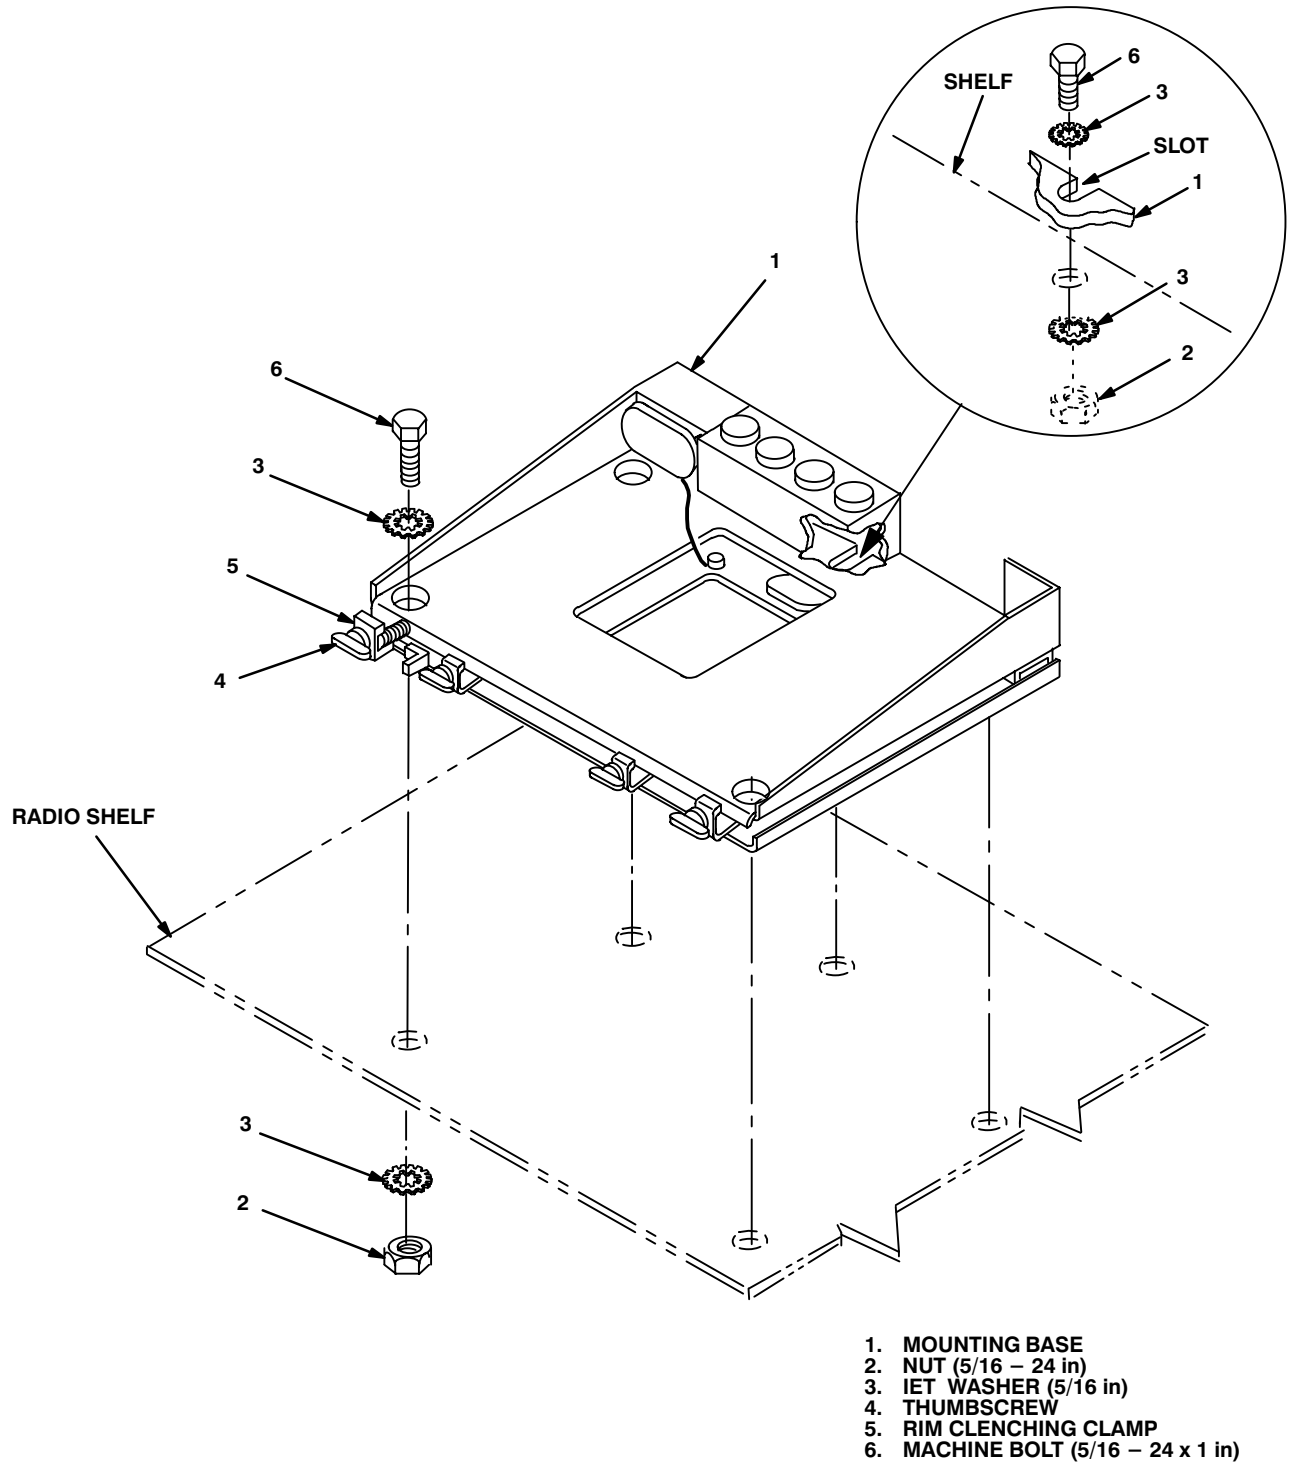

Figure 5-4. Mounting Base Installation
b. Mounting base (1).	Remove a 2" square area of paint on the underside of the mounting base (1) around left front and rear mounting holes. Remove a 2" square area of paint on the existing radio shelf around the existing mounting holes that mate with left front and rear mounting holes of mounting base (1). Clean the paint removed areas and apply a thin coat of conductive anti-seize compound.	Tools: Electric grinder or equivalent.
c. Two outer thumbscrews (4).	Turn ccw until both sets of threads have cleared center of holes. See Figure 5-4.
d. Mounting base (1).	Align four holes and rear slot with matching hole pattern in radio shelf.
e. Five machine bolts (6), ten IET washers (3) and five nuts (2).	Install and secure to mounting base (1) and radio shelf.	Tools: 1/2 in socket and 1/2 in open/box wrench.
f. Two outer thumbscrews (4).	Tighen and secure to rim clenching clamps (5) and mounting base (1).
5.2 Installation of Mounting Base, Electrical Equipment MT-6352/VRC (mounting base). Continued. Remove and retain attaching bag of 5/16 in mounting hardware for installation. To insure good electrical grounding, any rust, corrosion or paint around mounting holes in radio shelf should be removed before installing the mounting base. See figure 5-4 and perform the following steps.